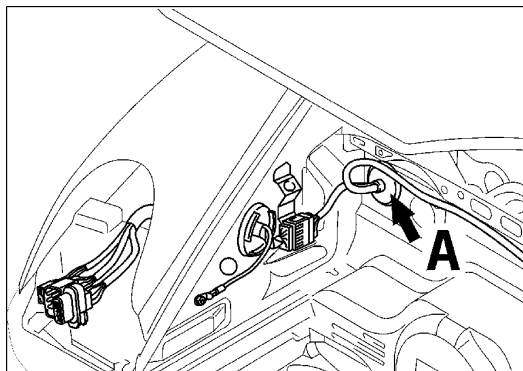

Figure 1
- 1.4** Drill a 3 mm hole in the grommet for the electrical harness (Figure 1, Item A).